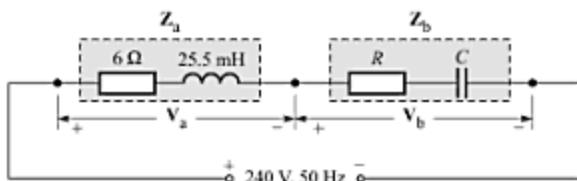

Fig. C-67
- C-106.** The series combination of an inductive impedance Z_a consisting of $R = 6\ \Omega$ and $L = 25.5\text{ mH}$ and an unknown capacitive impedance Z_b is connected across 240-V , 50-Hz supply, as shown in Fig. C-67. It is found that the voltage V_a across Z_a is three times the voltage V_b across Z_b , and are in quadrature. Determine the values of R and C .